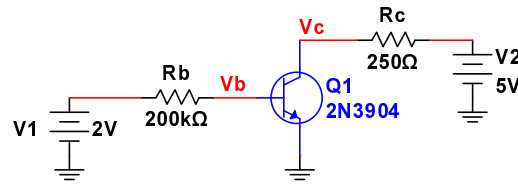
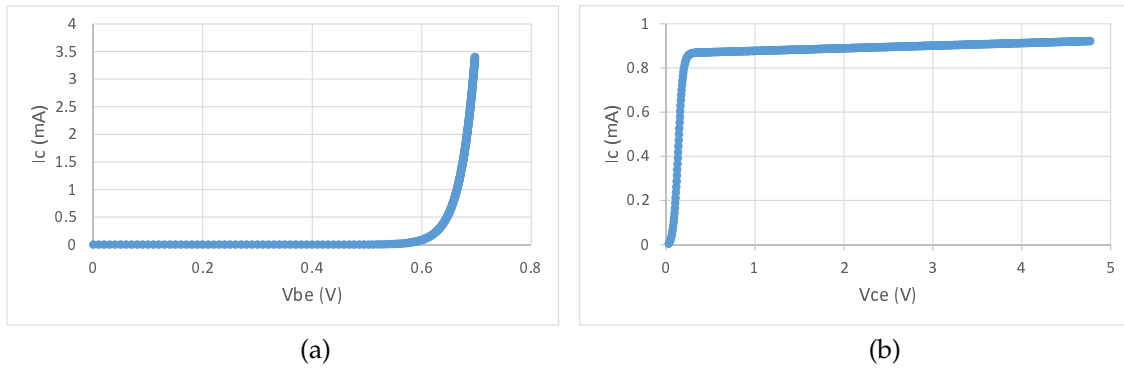

Figure 2: NPN BJT characterization circuit
Figure 3: Collector current (I_C) of an NPN BJT as a function of (a) V_{BE} (b) V_{CE}
Figure 2 shows a characterization circuit for an NPN BJT. To obtain I_C as a function of V_{BE} , V_1 is swept while V_2 is kept constant, resulting in the exponential function in Fig. 3(a). If V_1 is kept constant and V_2 is swept, I_C can be obtained as a function of V_{CE} as shown in Fig. 3(b).
1. Draw the schematics for the NPN characterization circuit in Fig. 2 using the 2N3904 transistor
1. Build the NPN characterization circuit in Fig. 2 using the 2N3904 transistor